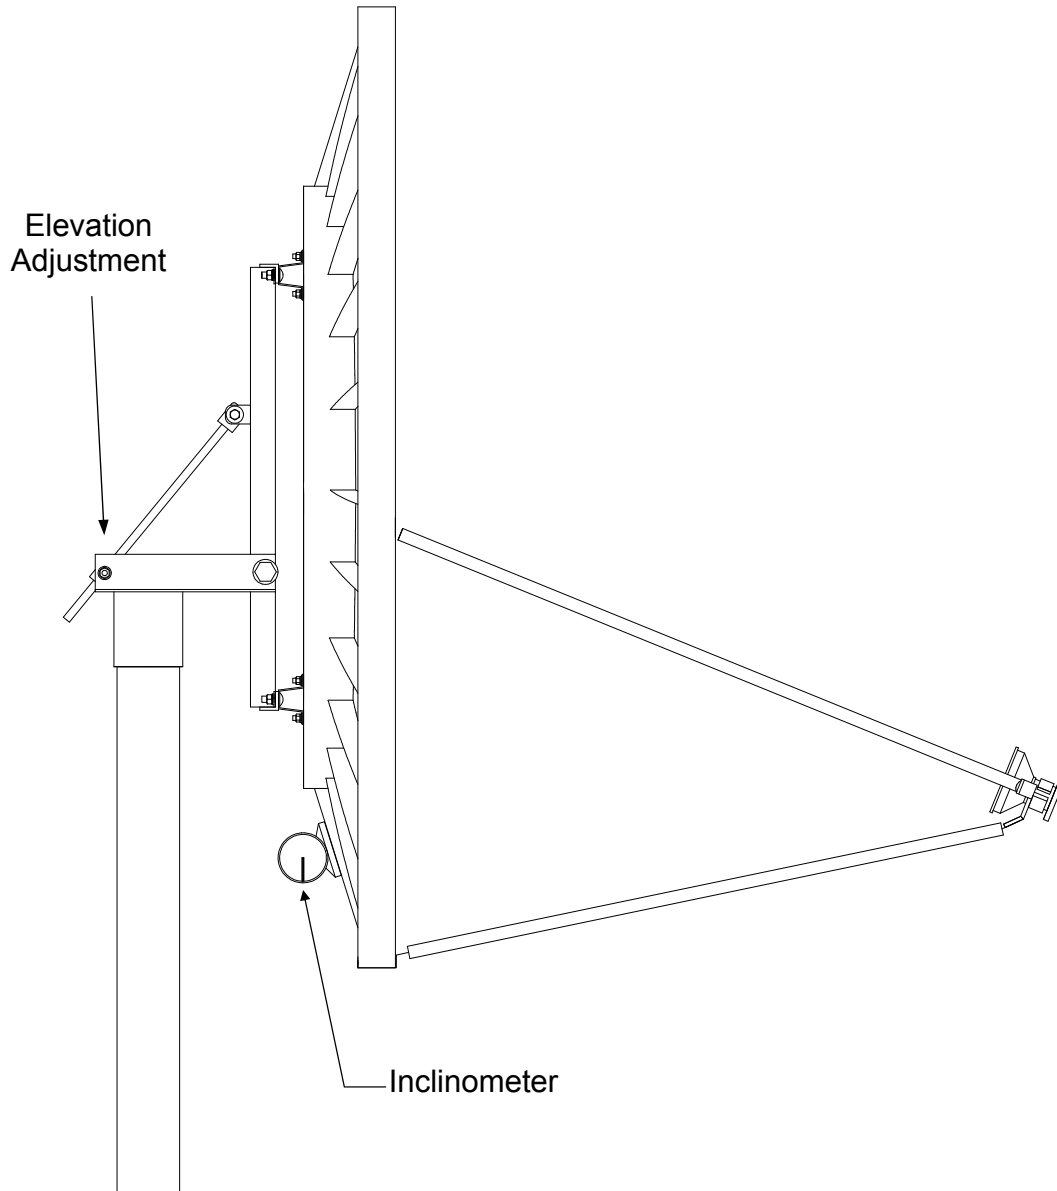

FIGURE 3
- 1) Aligning to primary satellite: Place the inclinometer on the sight reference rib as shown in figure 3. This surface compensates for the 22.3° offset in the reflector; therefore a direct reading can be taken.
- 5) Tighten the four (4) $1/2$ " set screws in the canister.